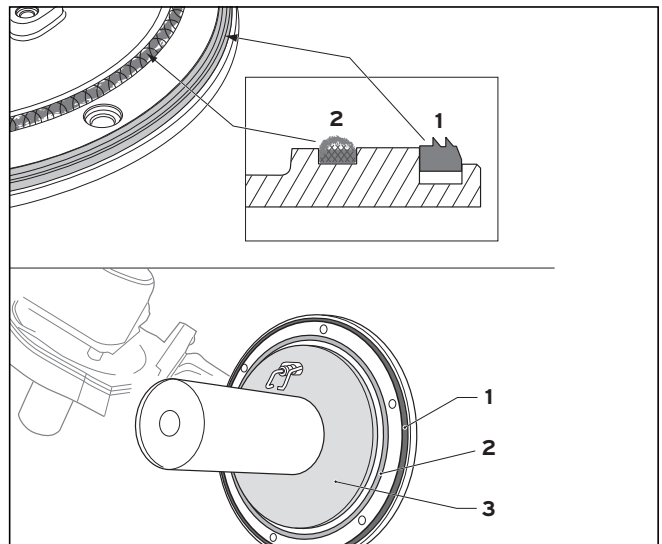

Fig. 7.2 Checking seals and burner flange insulation
The seal (1) and silicate cord (2) on the compact thermal module (fig. 7.2) (SP no. 180904) must be replaced every time the thermo compact module is removed. The burner flange insulation (3) on the compact thermal module (SP no. 180913) must not show any signs of damage; if it does, it must also be replaced.